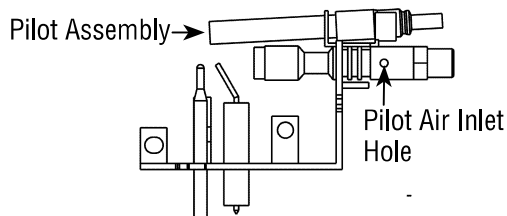

Figure 81 - Pilot Primary Inlet Air Hole (Natural Gas Pilot shown)
2. Inspect burner, pilot and primary air inlet holes on injector holder for dust and dirt (*see Figure 81, Page 27*).